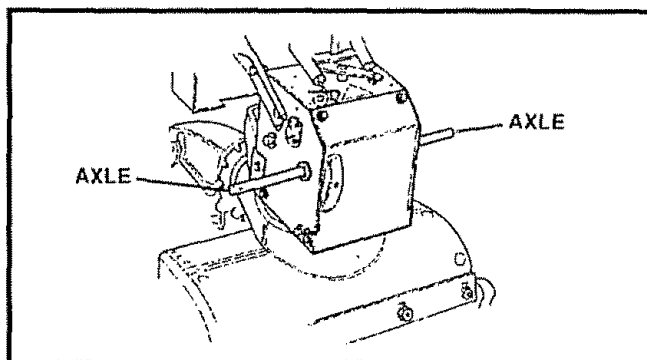

FIG. 15
- Remove both wheels, grease (any automotive type grease) both axles (See Fig 15) and replace wheels. Do this at least once a year and/or prior to storage